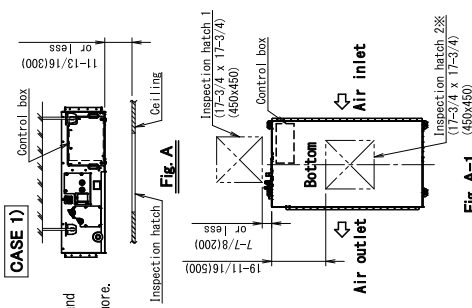

Fig. A-1
1) Inspection hatch 1 and 2 (17-3/4 x 17-3/4) (450x450) (Fig. A-1) and a space of 11-13/16 (300mm) or more under the unit. (Fig. A) Note) Inspection hatch 2 is not needed when there is a space for service work under the unit.
1) Inspection hatch 1 and 2 (17-3/4 x 17-3/4) (450x450) (Fig. A-1) and a space of 11-13/16(300mm) or more under the unit. (Fig. A) (Note) Inspection hatch 2 is not needed when there is a space for service work under the unit.
1) Inspection hatch 1 and 2 (17-3/4 x 17-3/4) (450x450) (Fig. A-1) and a space of 1-13/16 (300mm) or more under the unit. (Fig. A)